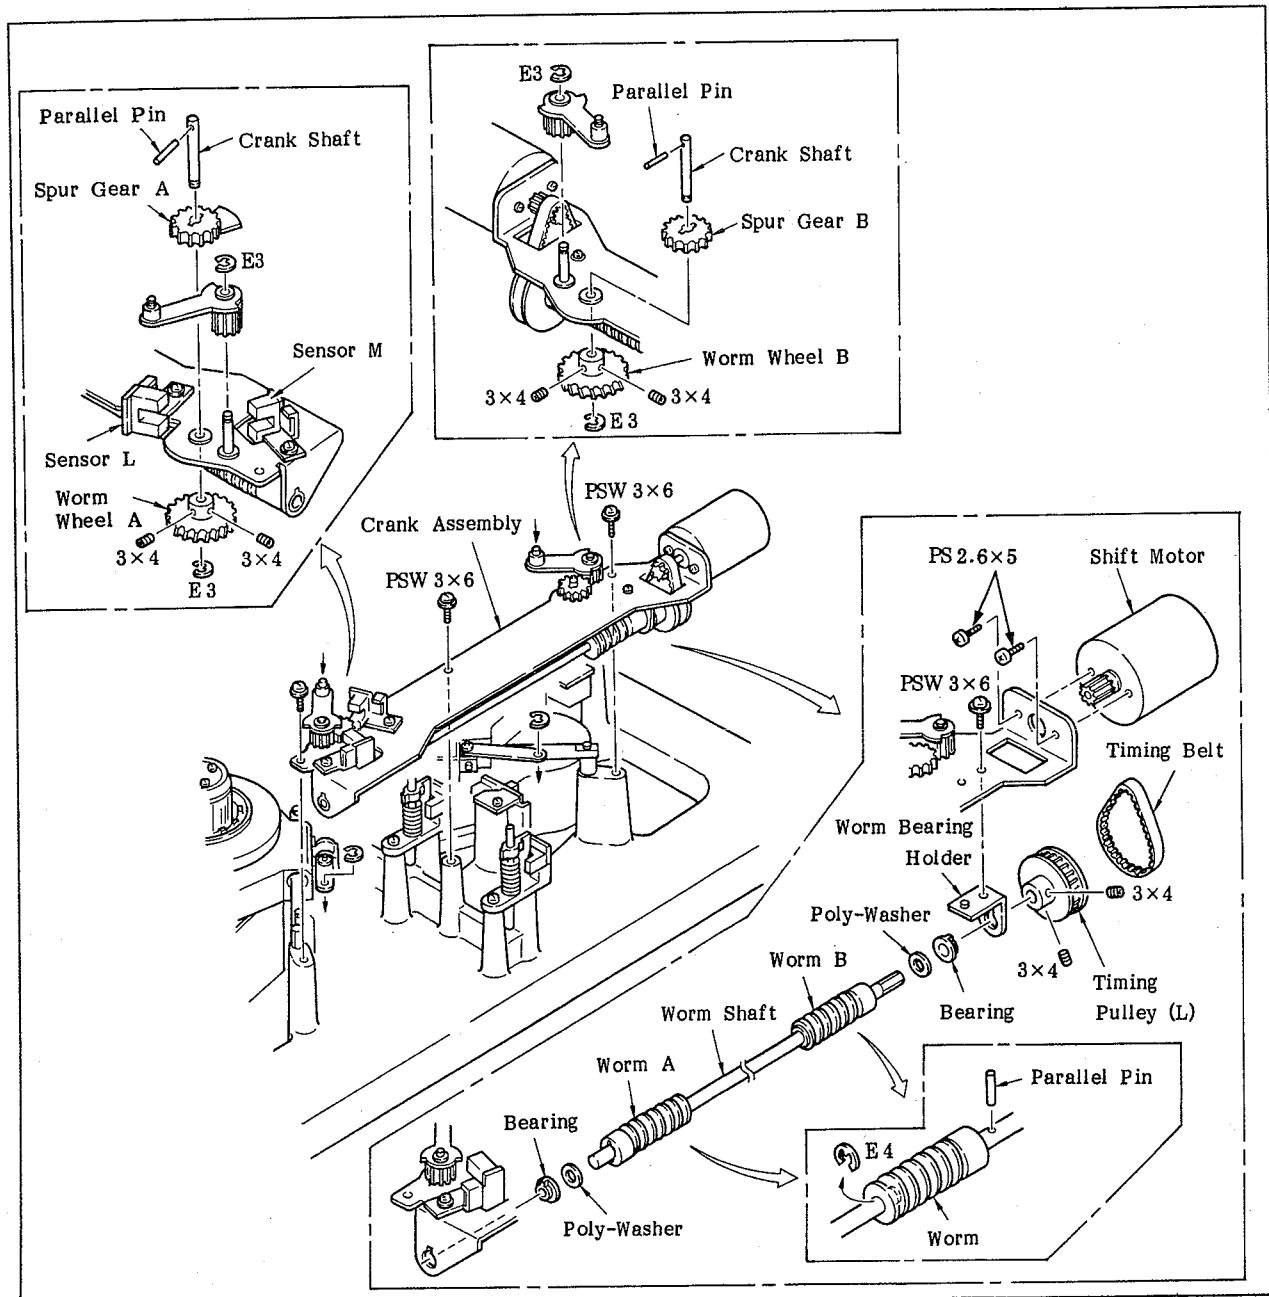
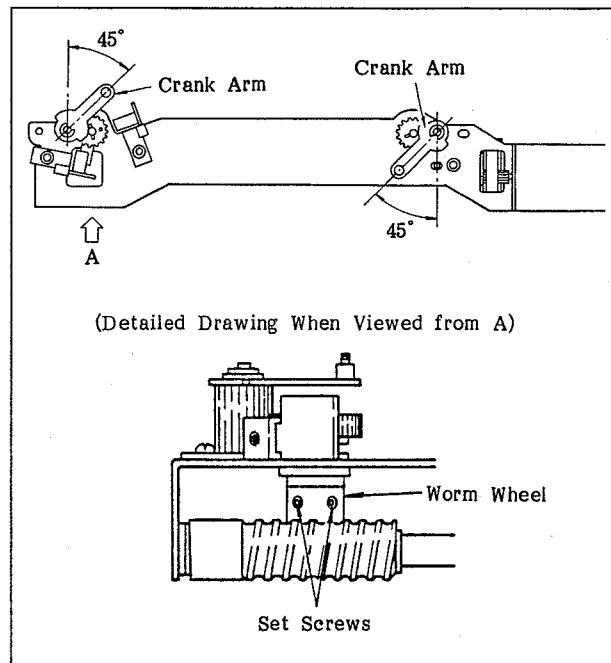

Fig. 6-36 Replacing the Reel Motor Shift Components)
Fig. 6-44 Replacing the Worm
- A. Refer to Figure 6-36 concerning the replacement of the reel motor shift components. They can be easily replaced. This section will describe the procedures for making the adjustments after replacement.
(Refer to Figure 6-36.)
2. Remove the crank assembly by referring to Figure 6-36.
6. Mount the crank assembly on the machine by referring to Figure 6-36.
3. Remove the timing belt, shift motor, and timing pulley (L) in that order.
5. Turn the S-side and T-side crank arms into the directions shown in Figure 6-44. Then, assemble the worm, worm shaft, worm bearing holder, and poly-washer bearing.
6. Insert the timing pulley (L) so that the D cut surfaces of the worm shaft match the two tap holes of the timing pulley. Then, insert a 0.5 mm thickness gauge between the bearing and timing pulley (L) and fasten the timing pulley by securing with two set screws while pushing the timing pulley (L) into the bearing.